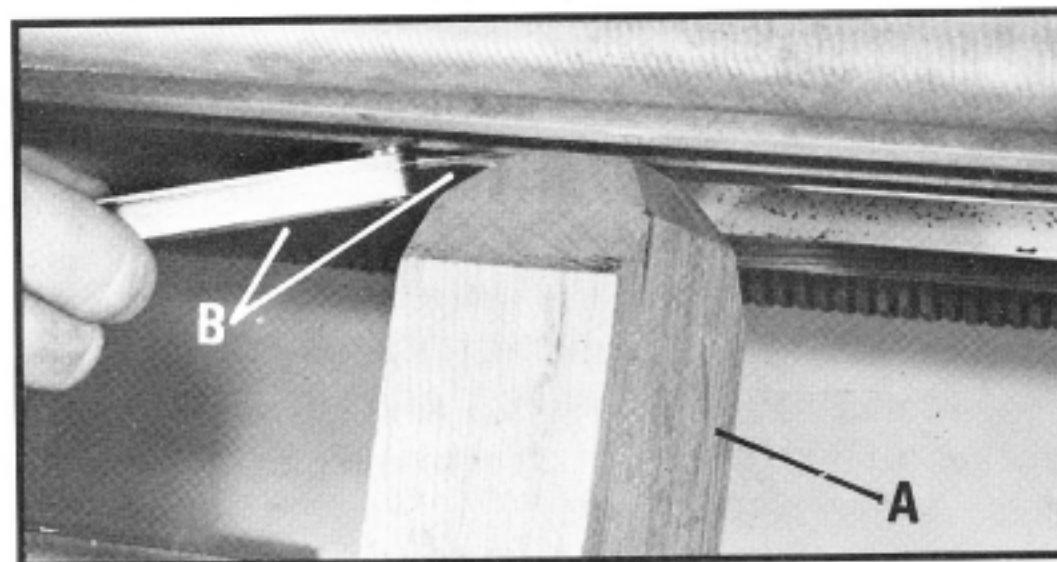

Fig. 28
3. Place gage block (A) Fig. 28, on the table directly underneath the cutterhead as shown. Using a .035" feeler gage (B) placed on top of gage block (A), raise or lower table until the knife just touches the feeler gage (B), when the knife is at its lowest point. Do not move the table any further until the adjustment is completed.